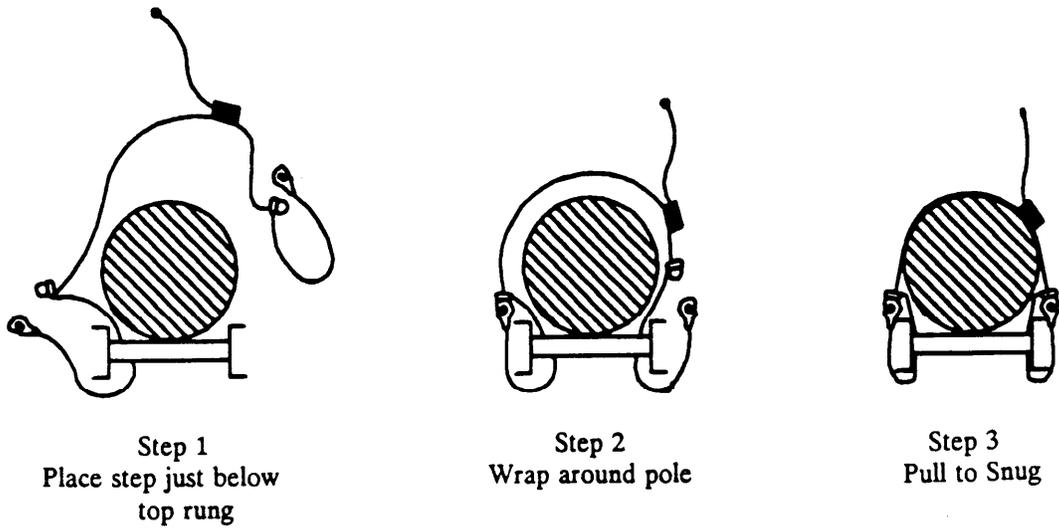

Fig. 5 - Placing the Top-Laddermate on a Pole (Top View)
8.01 Securing The Ladder To A Pole (Fig. 5)